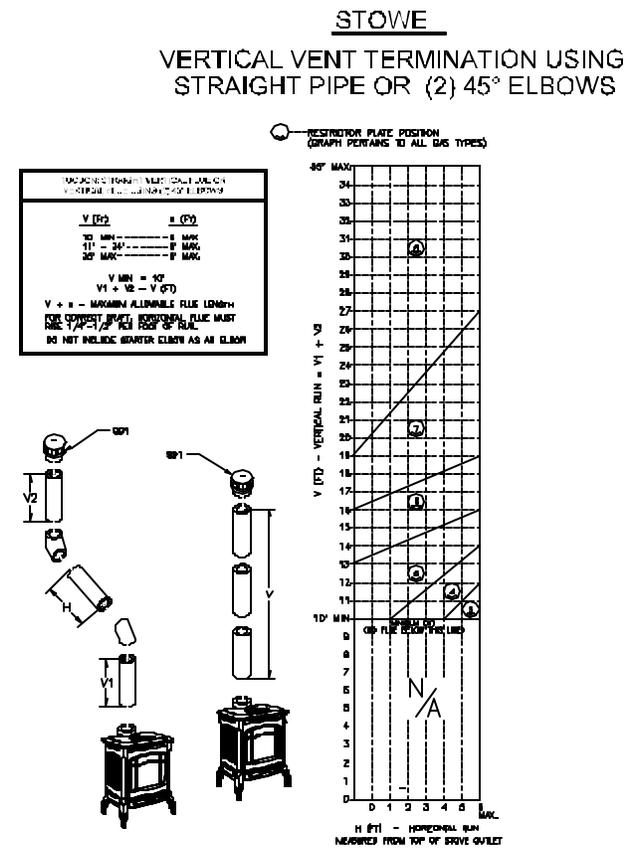
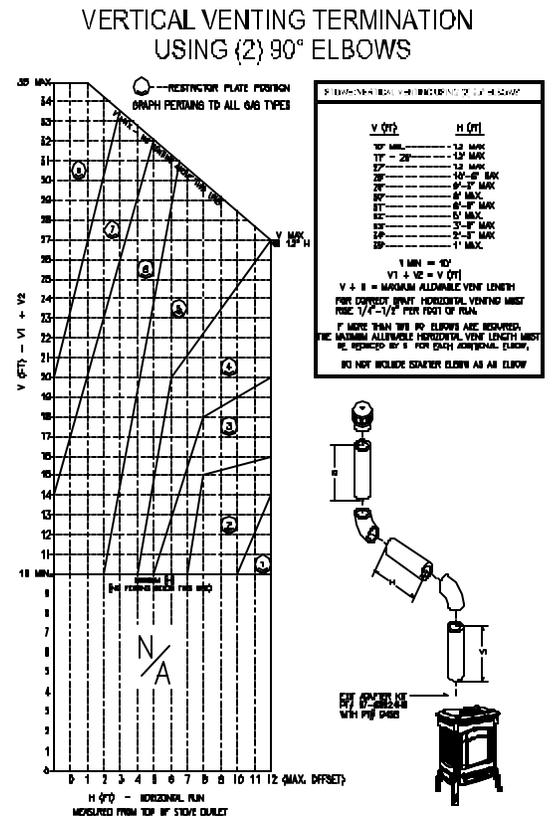

FIGURE 2 VERTICAL TERMINATIONS USING STRAIGHT PIPE
FIGURE 3 VERTICAL TERMINATIONS USING (2) 90° ELBOWS
The Stowe cannot be vented jointly with any other solid fuel or gas appliance. It must be vented directly to the outside of the building using a proper termination as listed in the manual. The only type of venting pipe approved for use with your Stowe Direct Vent stove is Simpson Dura-Vent's GS AmeriVent Direct, or Secure Vent systems. The venting configurations are shown in Figures 2 - 6. After determining the venting configuration for your stove, select the Simpson Dura Vent system that will accommodate your installation.
APPROVED VERTICAL TERMINATION VENTING CONFIGURATIONS WITH NO ELBOWS OR (2) 45° OFFSETS (FIGURE 2), AND (2) 90° ELBOWS (FIGURE 3)
- 6' maximum offset (refer to Figure 2)
- 12' maximum offset (refer to Figure 3)
- The termination must fall within the outline shown in Figures 2 & 3. Use the indicated restriction plate position. The restriction Plate part # is 5950-922.